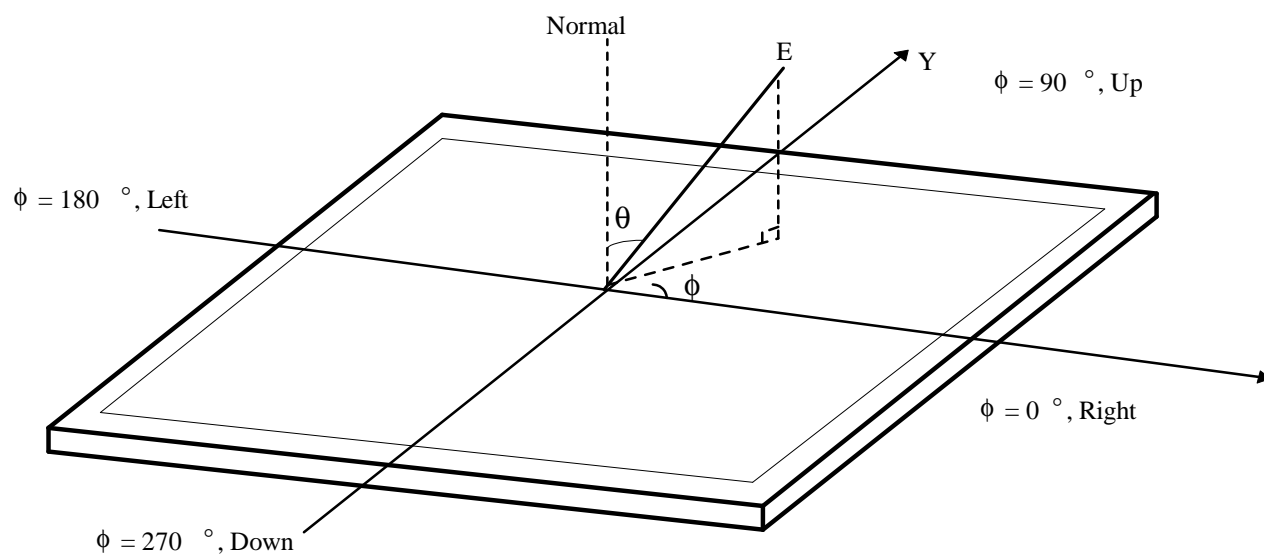

FIG.12 Viewing Angle
3. Viewing angle is the angle at which the contrast ratio is greater than 10. The angles are determined for the horizontal or x axis and the vertical or y axis with respect to the z axis which is normal to the LCD module surface. For more information, see the FIG. 12.